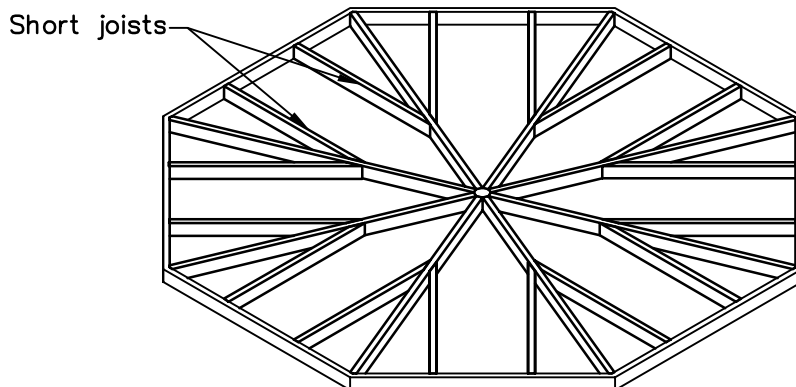

FIGURE S3
- Screw the all the short joists into place as per Figure S3. Each short floor joist should be at the right angles to the adjoining rim joists.